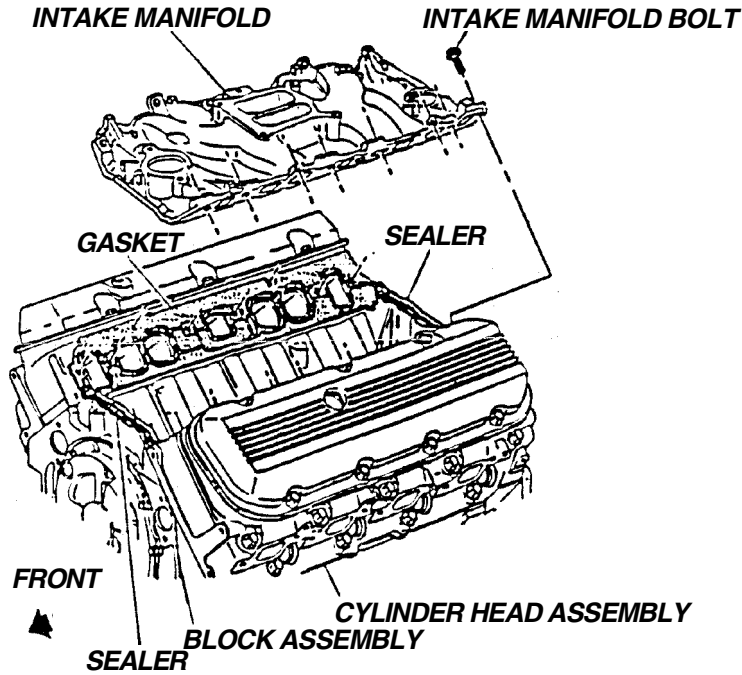

FIGURE 14
1. Carefully position the intake manifold on the engine. Align the bolt holes in the manifold with the bolt holes in the cylinder head. See Figure 14.